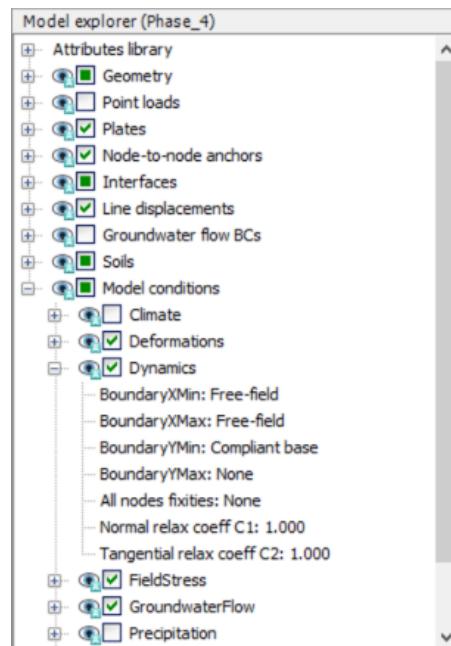

Figure 17-12: Boundary conditions for dynamics calculations (Phase_4)
- 10 Expand the **Dynamics** subtree. Set the **BoundaryXMin** and **BoundaryXMax** to **Free-field**. Set the **BoundaryYMin** to **Compliant base** as shown in Figure 17-12 \(p. 267\).